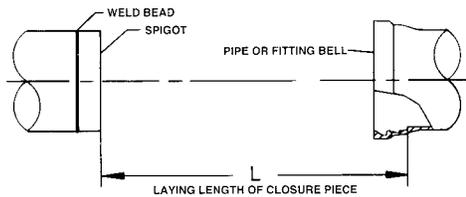

Figure 5.
In order that the laying lengths of the end pieces of the telescoping sleeve may be calculated, the laying length of the closure piece required must be measured. This length (L) is determined by measuring from the end of the plain end to the base (or deepest shoulder) of the socket as shown in Figure 5.